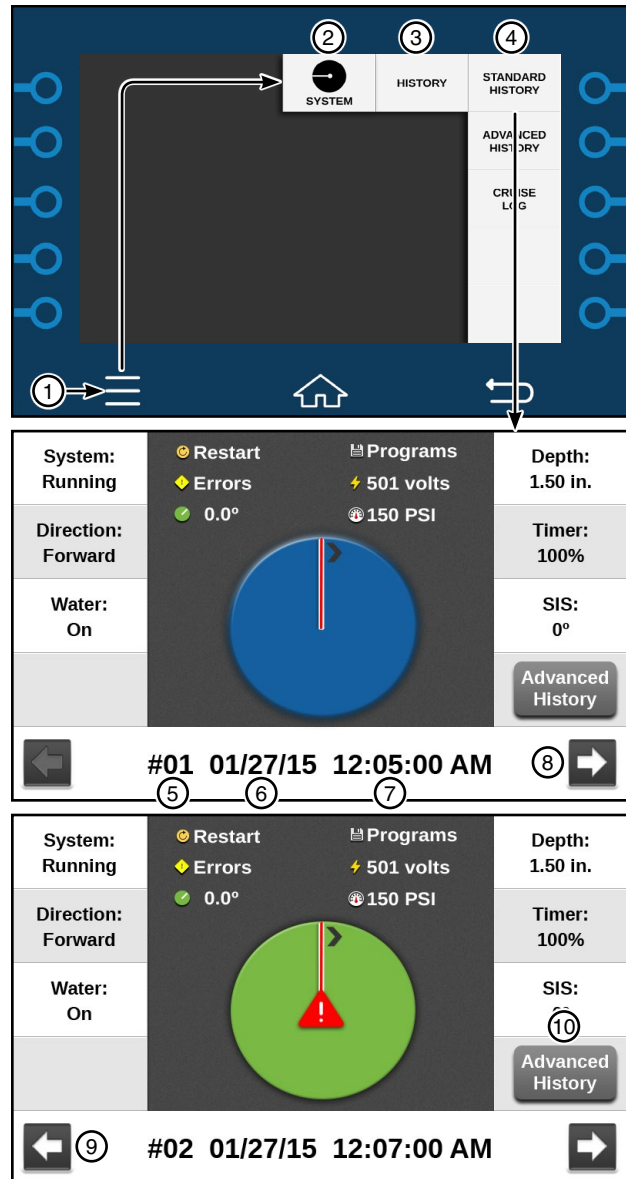

Figure 68-1
History provides a record of the 50 most recent machine operation status changes via the Standard and Advanced Screens. Refer to Figure 68-1.
1. To view Standard History, push **Menu**, **System**, **History**, and **Standard History**. See Figure 68-1.